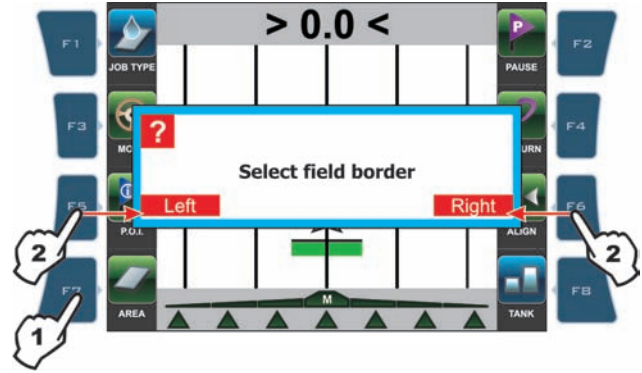

Fig. 243
- 3 Drive along field borders or border of the area to be calculated. To complete the procedure, view again the corresponding functions list page (Fig. 243) and press **F7**.